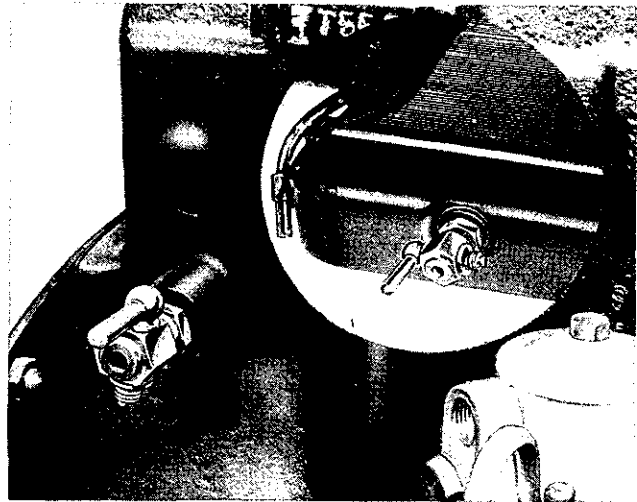

Fig. 5. Draining points in cooling system.
1. Drain Radiator of water, naturally preserving any anti-freeze mixture which may be in use. (See Fig. 5).
The draining of the water system from the points shown in Fig. 5 although protecting the engine from damage in the garage does not afford any immunity from freezing whilst the Car is in use, which can quite easily occur during severe weather, either when starting with the thermostat valve closed, or with this valve open